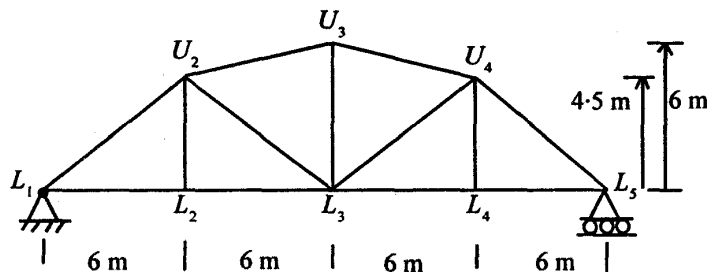

Fig. 3
3. Draw the influence lines for forces in the members U_2U_3 , U_2L_3 and L_2L_3 of a truss (Fig. 3). If a line load of 8 kN/m traverses from L_1 to L_5 , find the value of maximum forces in these members.